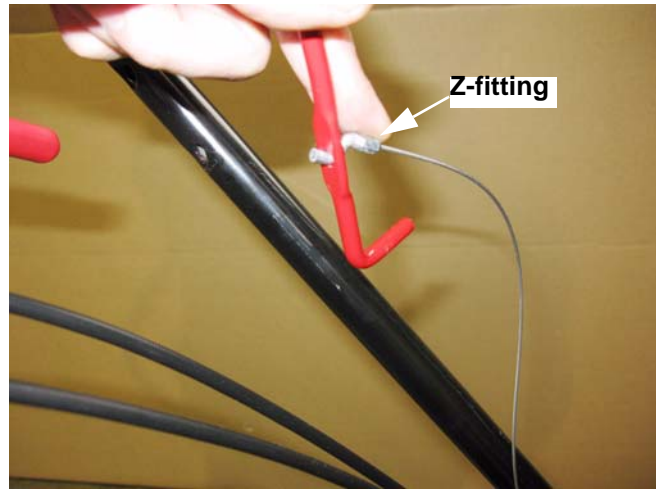

Figure 3.3
3. When the end of the bail clears the hole in the handlebar that it pivots in, move the bail away from the hole and release the pressure. See Figure 3.3.